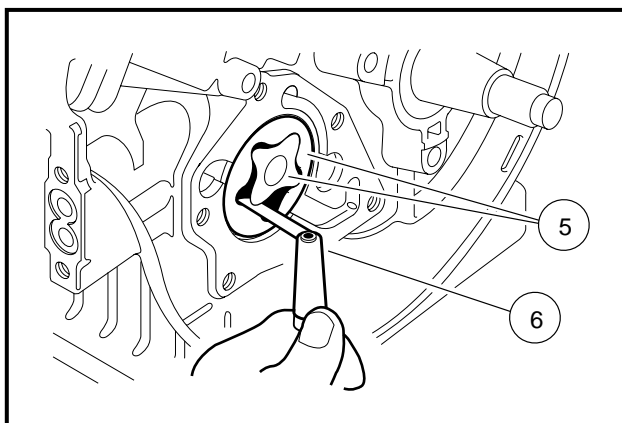

Figure 13-66 Check Clearance Between Rotors
1. Check the clearance between the inner and outer rotors (5) with a feeler gauge (6). Measure the clearance between the high point of the inner rotor and the high point of the outer rotor (**Figure 13-66, Page 13-33**).
3. Remove inner and outer rotors (5).